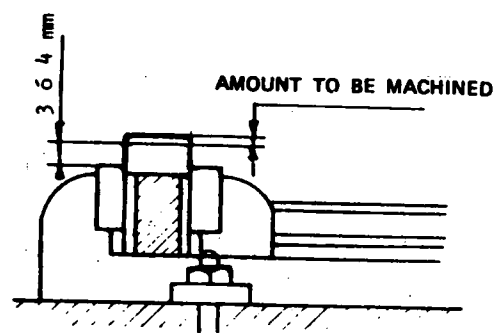

Fig. 3
- With thin workpieces, turn the vice as shown in Fig. 3.